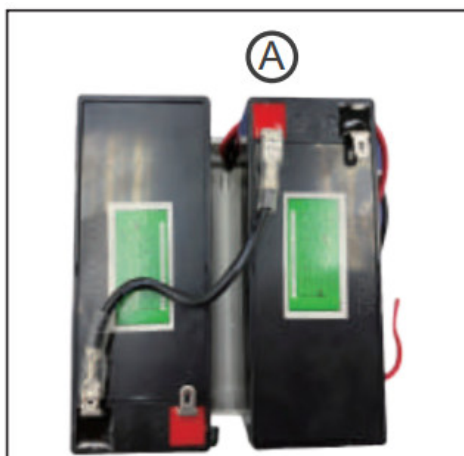

Fig.5
Step 5: After replacing the new batteries, please connect the wire A first, connect one end to the red positive pole (+), and one end to the black negative pole (-) of the other battery. (Fig.5)